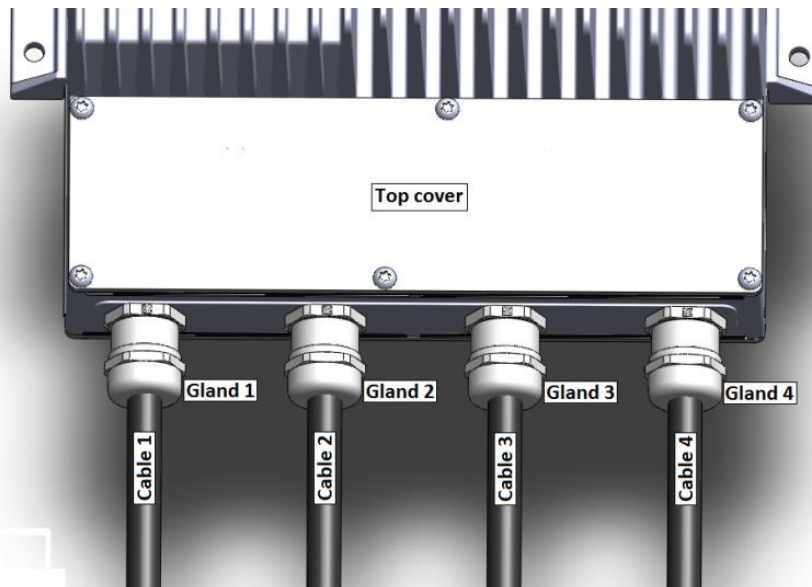

Fig.2: Description of cables
- a) Remove the Top cover of the terminal strips (Fig.2).